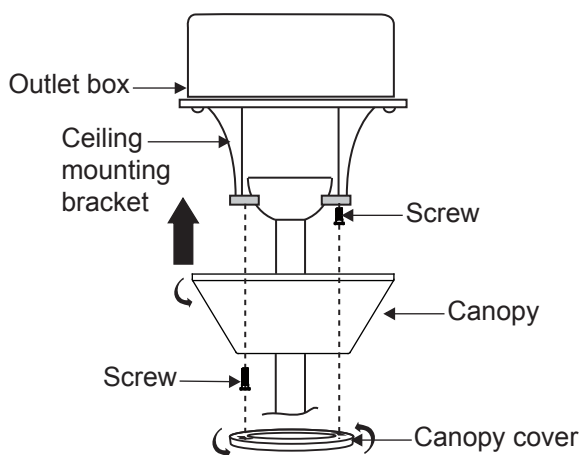

Fig. 16
Step 2. Remove one screw from ceiling mounting bracket, and loosen but do not remove the other screw, slide the canopy up to the mounting bracket and place one of the key hole slots over the mounting screw on the mounting bracket. Rotate the canopy until the screw head locks in place at the narrow section of the key hole. (Fig. 16)
NOTE: Adjust the canopy screws as necessary until the canopy and canopy cover are snug. (Fig. 16)